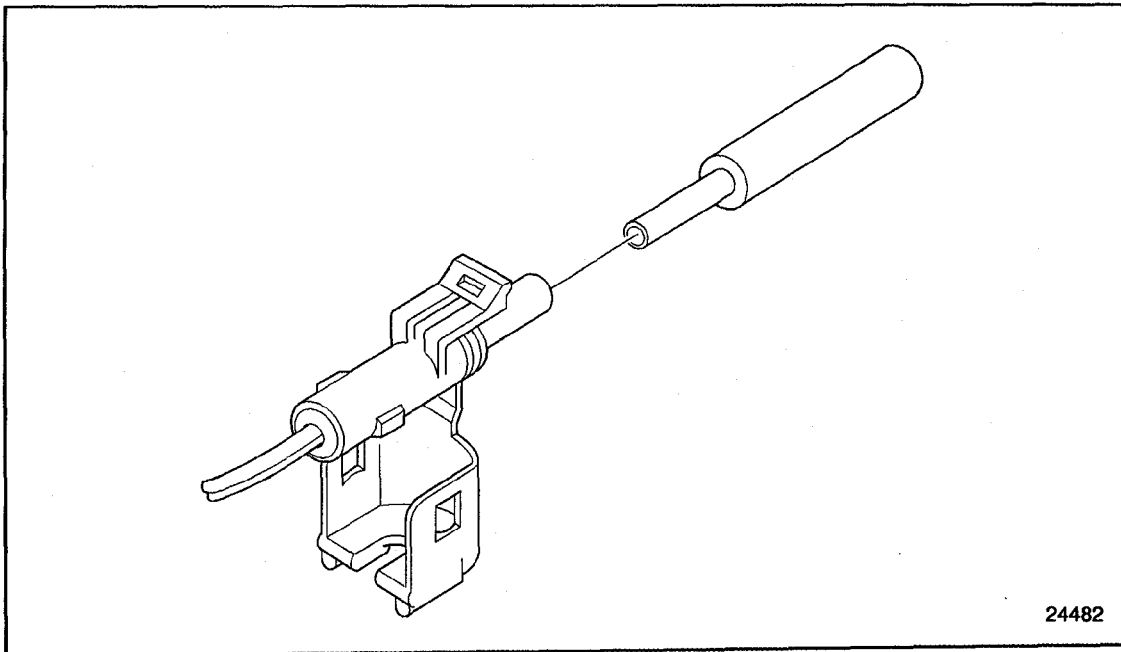

Figure 8-36 Removal Tool Procedure
2. Insert the removal tool straight into the front of the connector cavity until it rests on the cavity shoulder. See Figure 8-36.